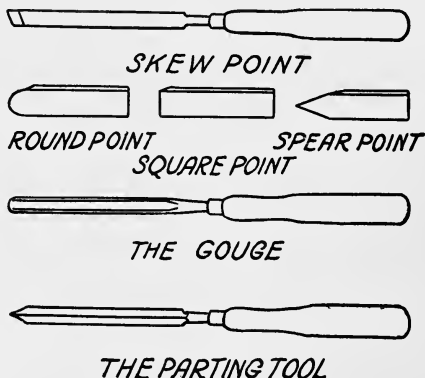

FIG. 18. A SET OF WOOD TURNING TOOLS
**Turning Tools for Wood.**—The tools used for turning wood13 are simply chisels and gouges. The chisels are made with four kinds of points, namely, (1) *skew point*; (2) *round point*; (3) *square point*, and (4) *spear point*, and these are shown in Fig 18. These chisels can be bought in all sizes from  $\frac{1}{4}$  inch to 1 inch wide.
Gouges also come in sizes from  $\frac{1}{4}$  inch up to 1 inch, and a *parting tool*, which is used to cut off a turned piece and which is simply a V shaped chisel, can be had in  $\frac{1}{2}$ ,  $\frac{5}{8}$  and  $\frac{3}{4}$  inch sizes. These turning tools are also shown in Fig. 18. You can buy them fitted with applewood handles and sharpened ready for use for about 50 cents apiece. You can buy them of hard-